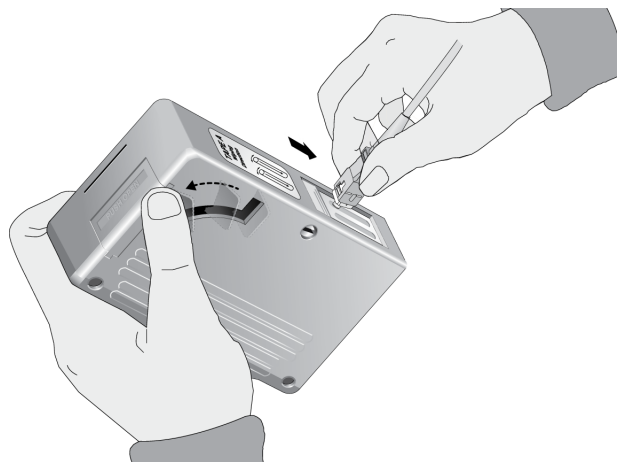

Figure 65. Rubbing the Ferrule Tip on the Cleaning Surface
2. Place the ferrule tip on the exposed cleaning surface and rub the ferrule in a downward direction, as shown in Figure 65.
1. Insert the swab into the adapter as shown in Figure 65 and rub the ferrule tip with the swab.